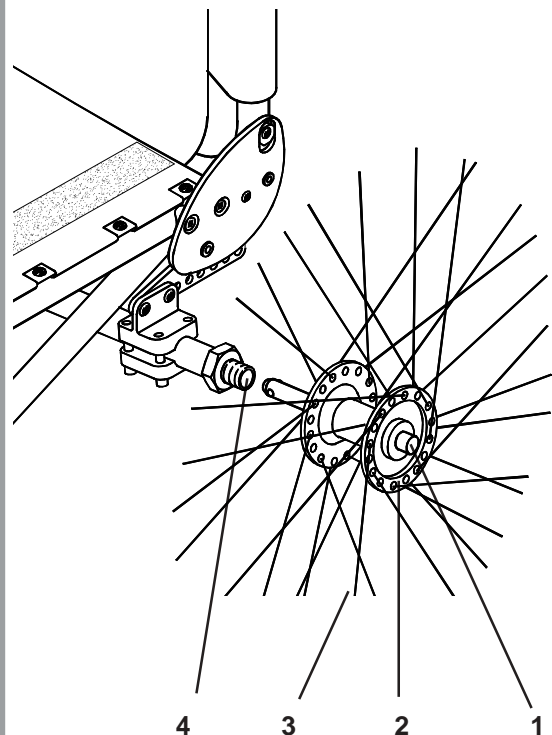

Fig. 20
To remove quick-release axles (Fig. 20) simply press the quick release button (1) which is located in the wheel hub (2), and grip the wheel through the spokes (3) around the hub and pull the axle out of its sleeve (4). To replace, slide the axle into the sleeve until the release button 'pops' out.